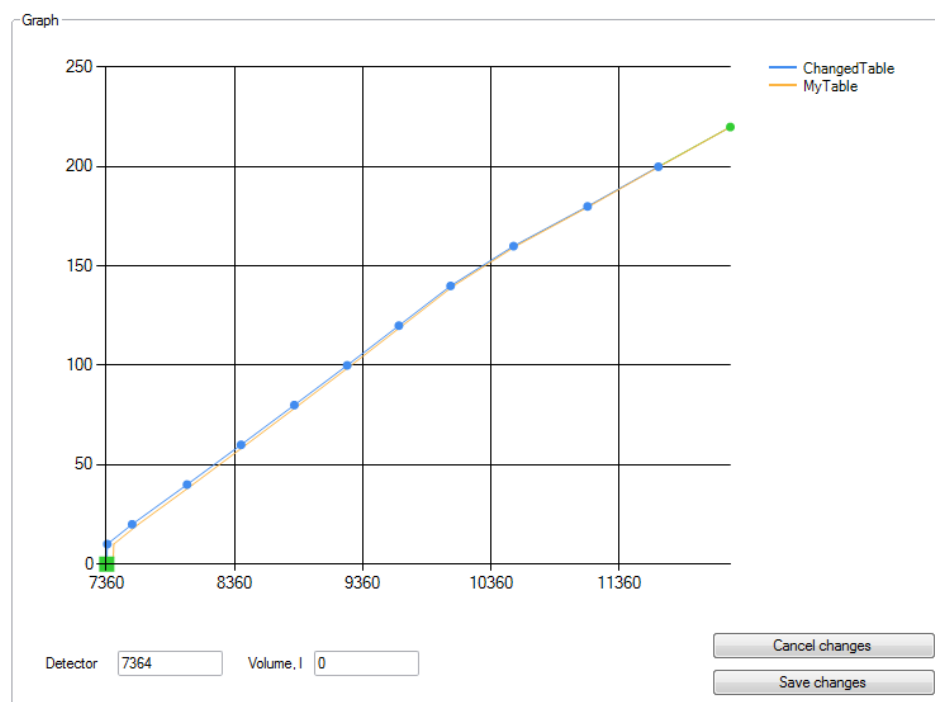

fig. 6.19. Tank calibration table
Let us consider the case: there are 2 identical fuel tanks. The first tank has got a tank calibration table (fig. 6.19). In this table the detector value of an empty tank is 7418, and the one of a full tank is 12211. After calibration of the second sensor its detector value of an empty tank is 7365, and the one of a full tank is 12150.
- select the lower detector point (it will become green) and by clicking the left arrow, move the lower detector point to the value closest to 7365 (fig. 6.19);